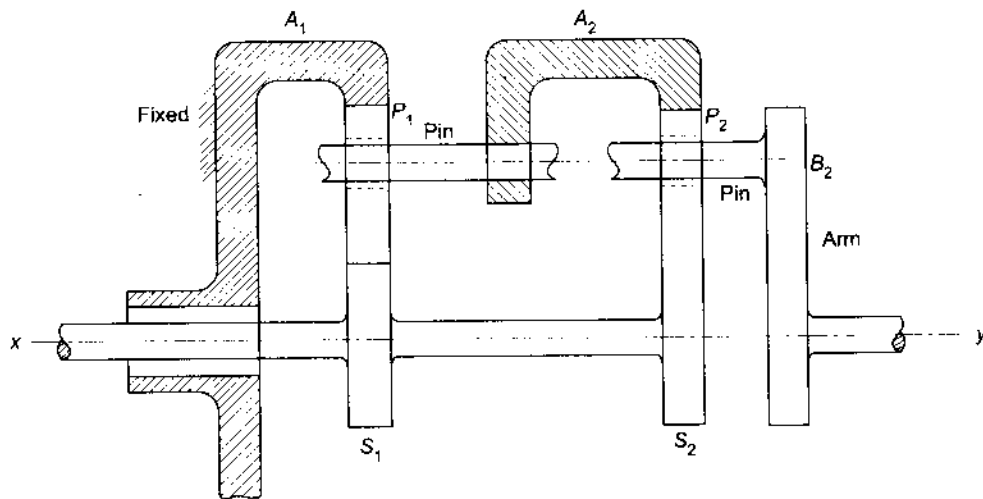

Fig.12.38
- 17 Fig.12.38 shows a compound epicyclic gear train in which two sun gears S_1 and S_2 are integral with the input shaft X . The arm B_2 is integral with the output shaft Y . The planet gear P_2 revolves on a pin attached to arm B_2 and meshes with gear S_2 and annular gear A_2 . The annular gear A_2 is coaxial with the input shaft. The planet gear P_1 meshes with the fixed annular gear A_1 and sun gear S_1 . The gear P_1 revolves on a pin fixed to gear A_2 . The number of teeth on gears are: $S_1 = 26$, $S_2 = 31$, $A_1 = 88$, $A_2 = 83$. The input power on shaft X is 10 kW at 1000 rpm cccw. Find (a) the speed and torque at shaft Y , assuming efficiency of 96% and (b) the torque required to hold the gear A_1 stationary.